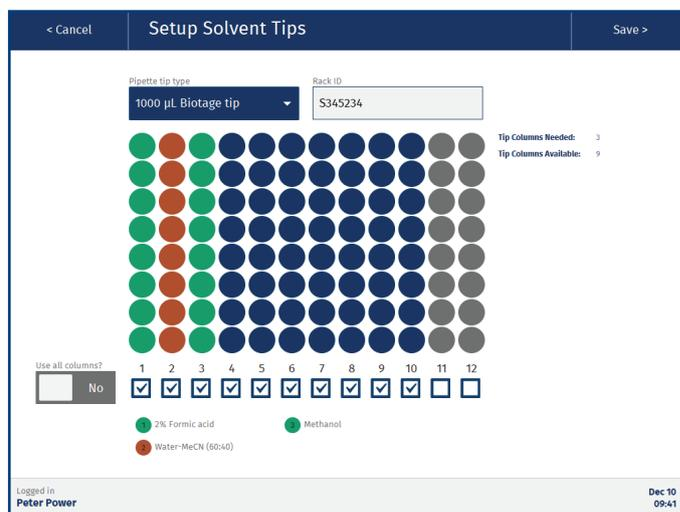

Figure 60. The Setup Solvent Tips view.
15. Press the illustration of the solvent pipette tips in the **Prepare Run** view (position **1**) and ensure that the **Setup Solvent Tips** view (see Figure 60) corresponds to the physical pipette tip rack holder in position **1** on the working area. The required number of pipette tips is displayed in the **Setup Solvent Tips** view. The number of tips reflects the number of solvents used in the method. Ensure that the correct tip type is selected in the **Pipette tip type** drop-down list.
-  Pipette tip available for reuse with the solvent listed below the rack; see Figure 60.
-  Pipette tip available for reuse but will not be used in this run (wrong solvent); see Figure 60.
-  This pipette tip will be used. If green, it is reused from the previous run for the solvent listed below the rack; see Figure 60.